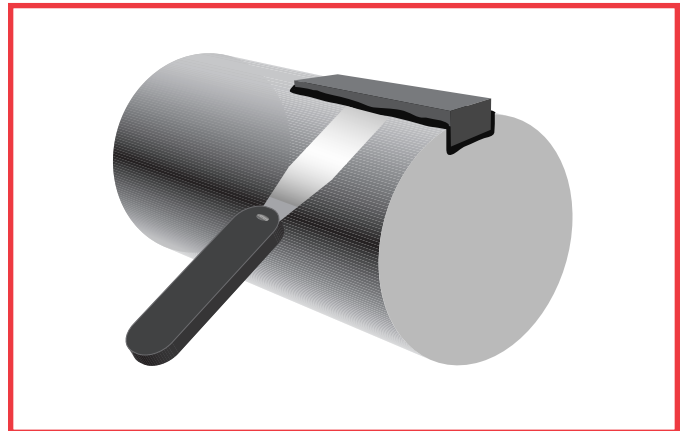

Figure 23. Immediately scrape excess epoxy away from repair area.
4. **Scrape** away excess epoxy from the side of the keyway. (See figure 23)